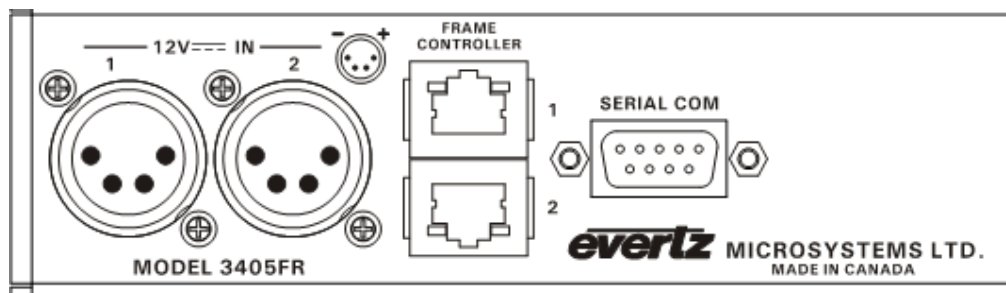

**Figure 2-4: DC Power Connector to Frame and 3405PS-6**
**CAUTION:** MAKE SURE THAT YOU OBSERVE THE DC POLARITY AS SHOWN IN Figure 2-4.